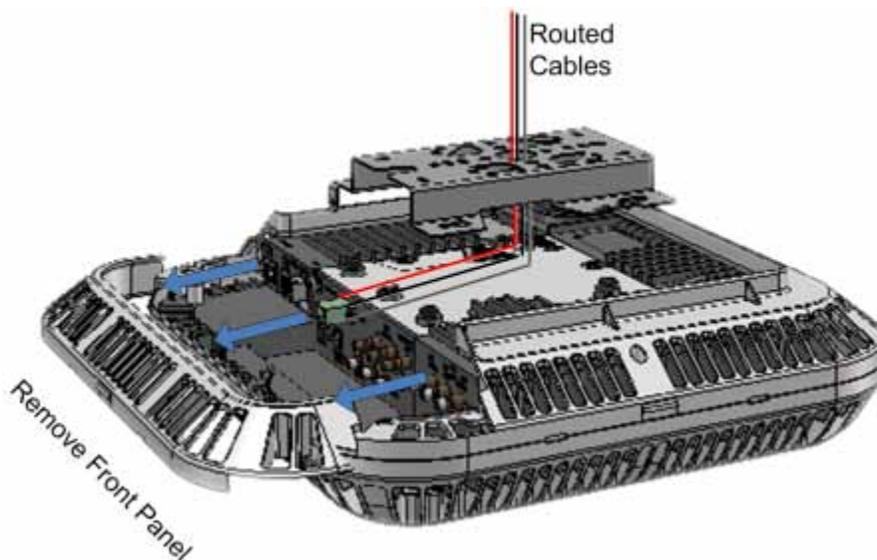

Figure 5-64. Route Cables towards RAU Connectors
3. Pull the front panel and remove to access connectors. See Figure 5-64.
4. Route the cables over the top of the RAU and towards the front panel connectors, where the bracket will be located. (The cables will be routed between the RAU and the bracket). See Figure 5-64.
5. Pull the front panel and remove to access connectors. See Figure 5-64.